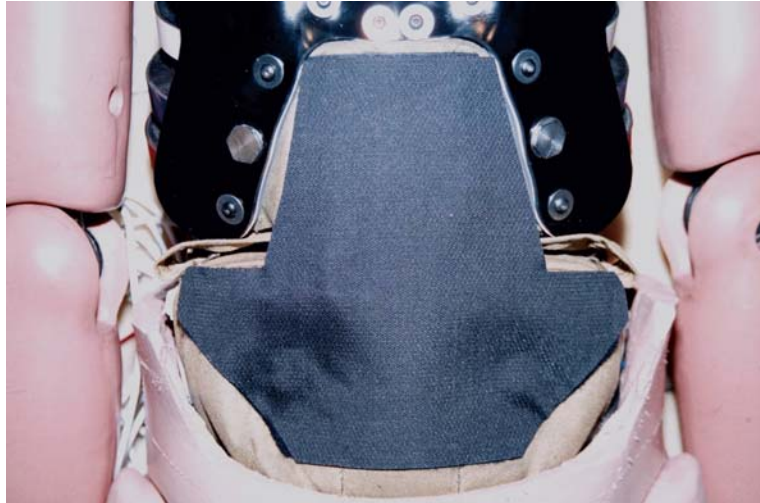

Figure 9.17- Proper location of Upper and Lower Abdomen cover
8. After the installation of the lower abdomen is complete, cover the front surfaces of the upper and lower abdomen assemblies with the Upper and Lower Abdomen Velcro Cover (T1LAF117), as shown in **Figure 9.17**